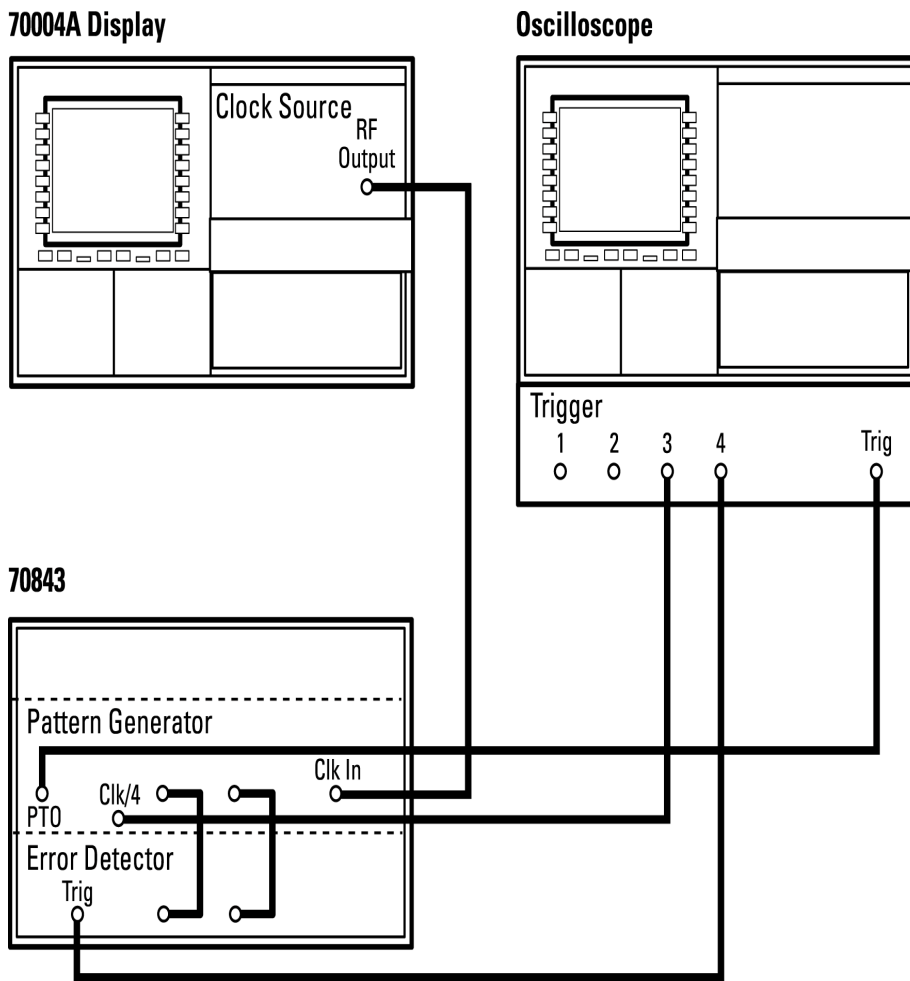

Figure 11-11
1. With the equipment set up as in Figure 11-11, select a fixed error rate of  $1E-3$ .
**Configure the equipment as in Figure 11-11.**
Configure the equipment as in Figure 11-11.